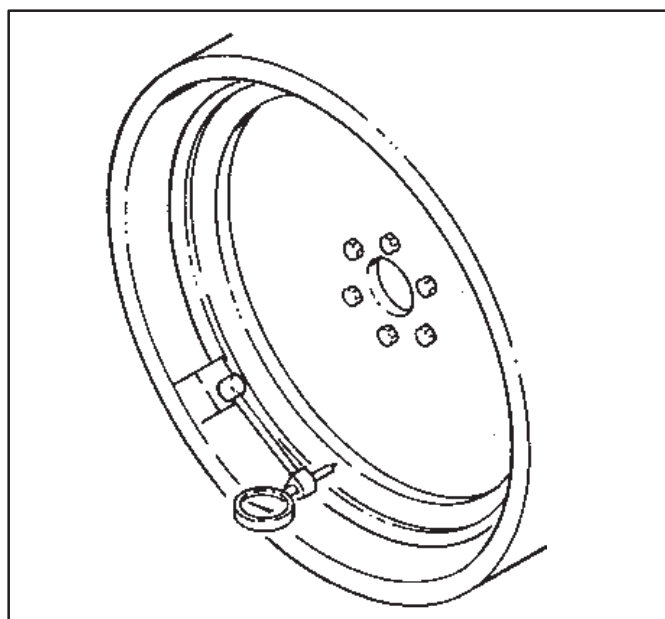

Figure B-3. Flywheel Face Deviation
4. Check the flywheel face deviation by mounting the dial indicator base to the flywheel housing and locating the dial arm tip against the coupling gear mounting surface, Figure B-3. Rotate the flywheel and check that the total indicator reading does not exceed .005 in.